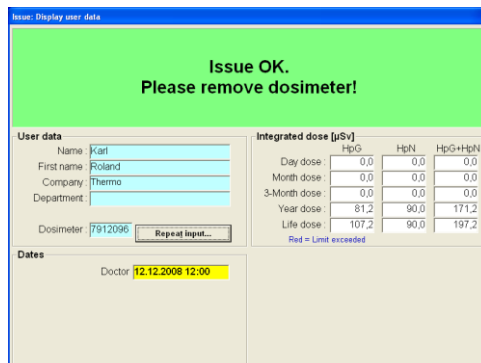

Figure 4
8. Wait for the text on a green background **“Issue OK. Please remove dosimeter!”** (Fig. 4).